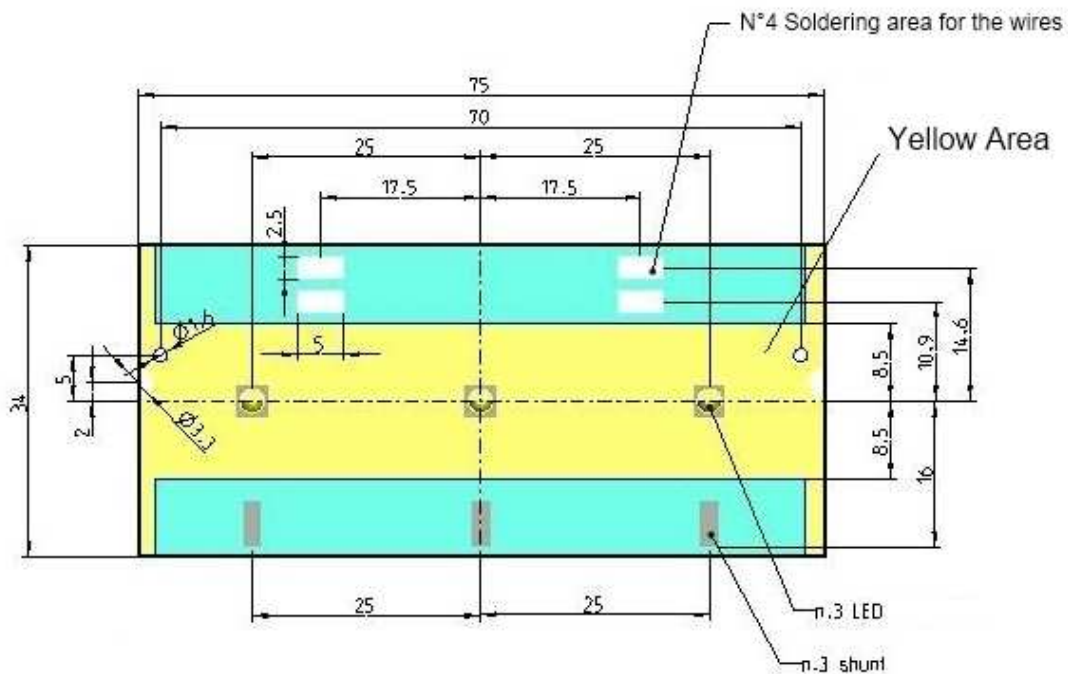

Fig.1
Fig. 1. PCB for one optic in metal core material. Dimensions, in millimeters, are shown in the picture. Please note the yellow area is required for the F2L3 optic. This area cannot have electrical components or other obstructions.
**For additional dimensions see Figure 1.**